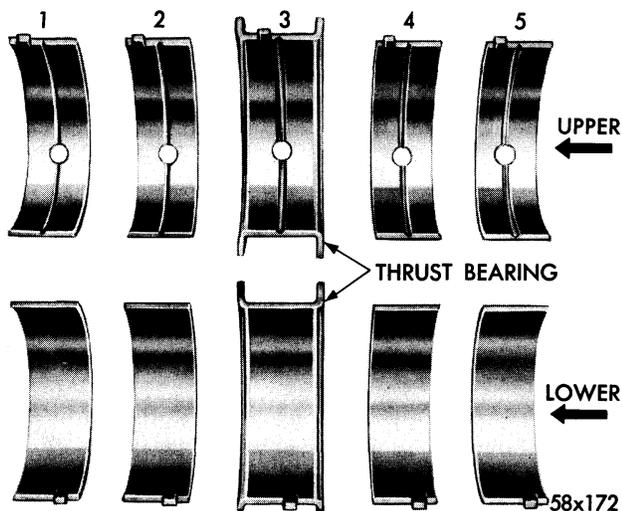

Figure 30—Upper and Lower Bearing Inserts—
2. **INTERCHANGEABILITY OF BEARING INSERTS**—350 Cubic Inch V-8 Engine—The upper halves of bearings 1, 2, 4, and 5 are interchangeable. The lower halves of bearings 1, 2, 4, and 5 are also interchangeable. An upper half of an insert is not interchangeable with a lower half. See Figure 30.